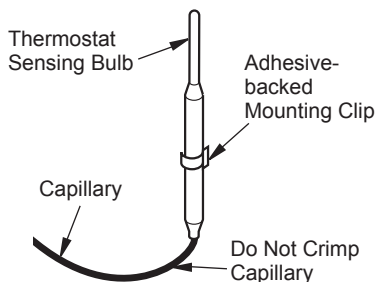

Figure 40 - Positioning the Thermostat Sensing Bulb in the Vertical Position with the Capillary at the Bottom
4. The mounting clip must be a minimum of 3" from bottom of fireplace to prevent crimping of capillary. Once you have decided on a location, clean the area thoroughly. Remove the paper backing from the adhesive on back of mounting clip. Press the clip into the new location so that the thermostat sensing bulb will be positioned vertically with the capillary at the bottom (see Figure 40). Slide the thermostat sensing bulb into the clip.